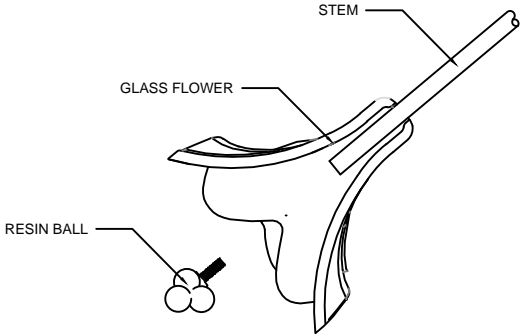

FIGURE-03
- 6. Insert the frosted glass flower to stems labeled with frosted and lock them using the resin ball. (See Figure -03)
- 7. Insert the bubbles glass flower to stems labeled with bubbles and lock them using the resin ball. (See Figure -03)
- 8. Insert the clear glass flower to the unlabeled stems and lock them using the resin ball. (See Figure -03)